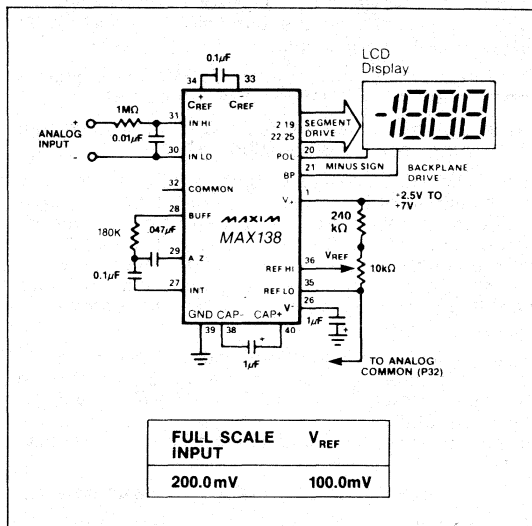

Figure 1. MAX138 Typical Operating Circuit
( $V^+ = +5V$ ,  $T_A = +25^\circ C$ ; test circuit—Figure 1)
**Note 4:** Test condition is  $V_{IN}$  applied between pin IN HI and IN LO through a  $1M\Omega$  series resistor as shown in Figures 1 and 2.
**Note 5:**  $1M\Omega$  resistor is removed in Figures 1 and 2.
Figures 1 and 2 show the typical operating circuit for the MAX138/139/140 when powered by a single +5V supply.